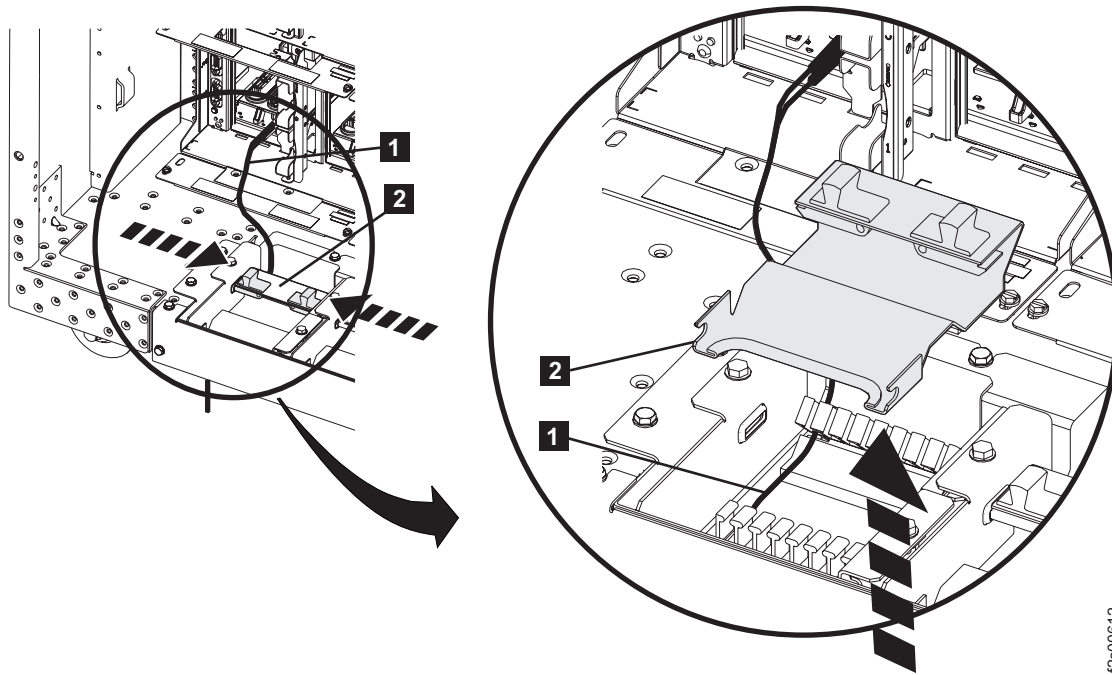

Figure 67. Tailgate cable and fibre channel cable retention
8. Route the cables **1** to the rear of the appropriate DS8000 frame. See Figure 67 on page 79.